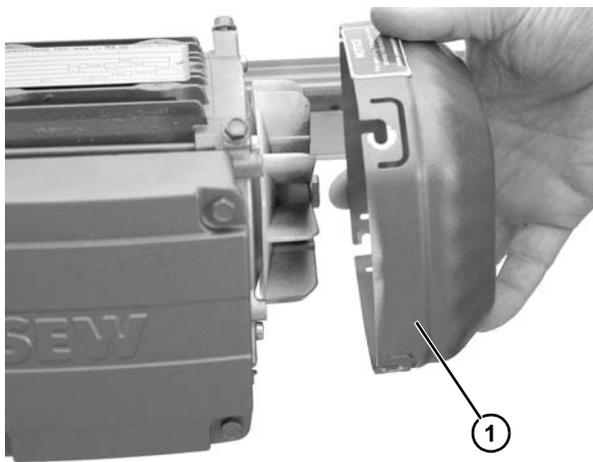

Figure 13
2. Remove motor fan cover (**Figure 13, item 1**).